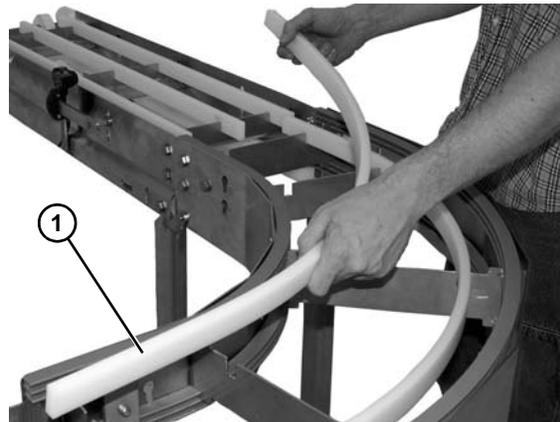

Figure 47
3. Remove curved wear strips from frame notches (**Figure 47, item 1**) when worn.